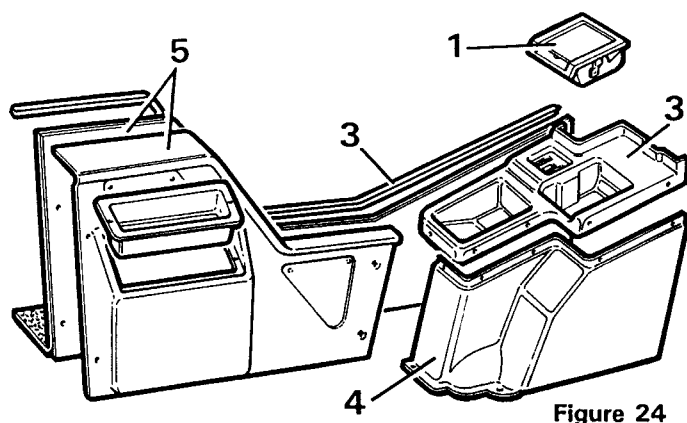
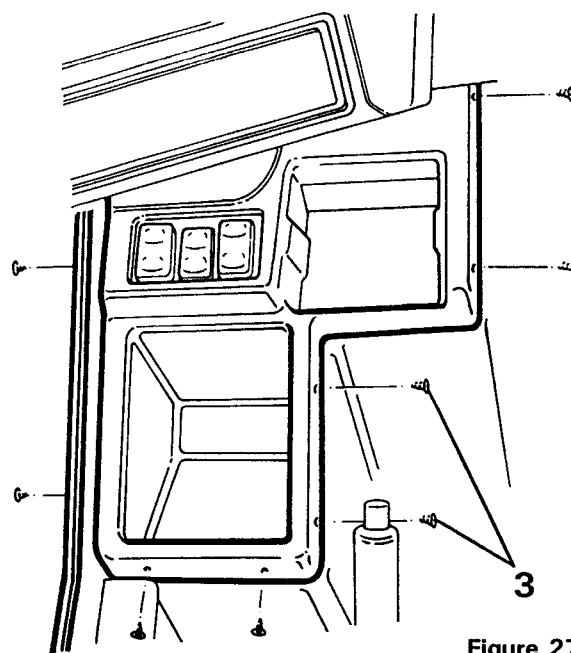

Figure 24
Figure 27
The centre console comprises four main panels; the R.H. front plastic moulding, the R.H. rear plastic moulding, the L.H. board complete with carpet or matting and the top plastic moulding. Individual components housed within the centre console such as the drivers ash tray or ash tray illumination can be serviced without disturbing the console fixings, see Figure 24.
3. Remove the edging strip and the retaining screws (8 Off) securing the top console and lift the console from the rear to clear fascia and gear lever, see Figure 24 and Figure 27.